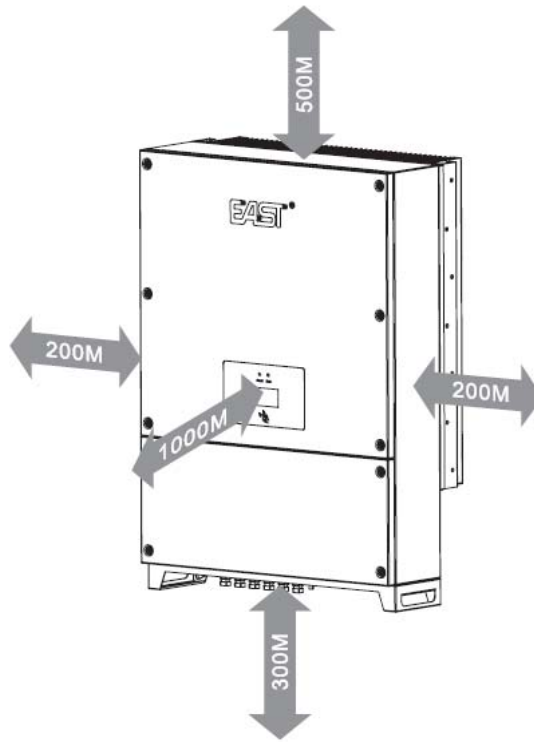

Figure 6 Minimum installation space
- (3) The space between inverter and surrounding objects shall comply with the following conditions: horizontal space $\geq 200\text{mm}$; upper space $\geq 500\text{mm}$; lower space $\geq 300\text{mm}$ and front space $\geq 1000\text{mm}$ (as shown in Figure 6), so as to ensure sufficient installation and radiation space.
- (4) According to the EMC and noise level, inverter is applicable to industrial environment and should be installed away from living area as far as possible.
- (5) Vertical installation, or at most backward inclination 15° is recommended. It should be installed in positive direction, with terminals facing downward.